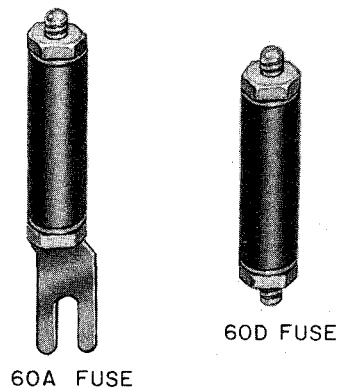
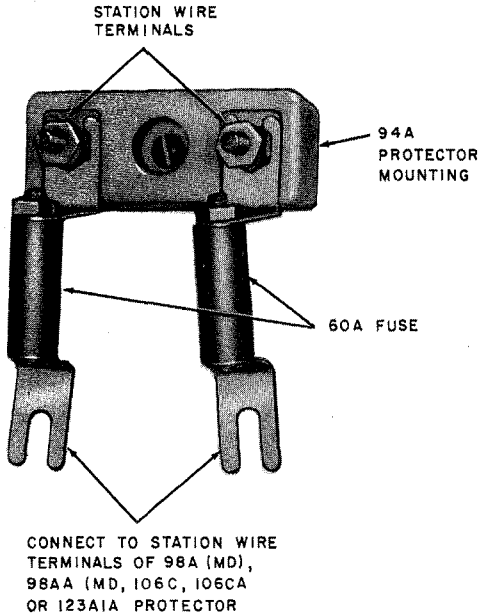

Fig. 79—60A and 60D Fuses
Fig. 80—60A Fuses Connected to 94A Protector Mounting
10.04 The 60A and 60D fuses (Fig. 79) are rated 0.350 ampere and differ only in arrangement for mounting. The 60A fuse has a spade terminal and is used with the 94A protector mounting (Fig. 80). The 60D fuse is mounted in a 14A fuse holder (Fig. 81) or 1094A protector (Fig. 82), ♦or 191A1-20 protector (Fig. 83)♦.